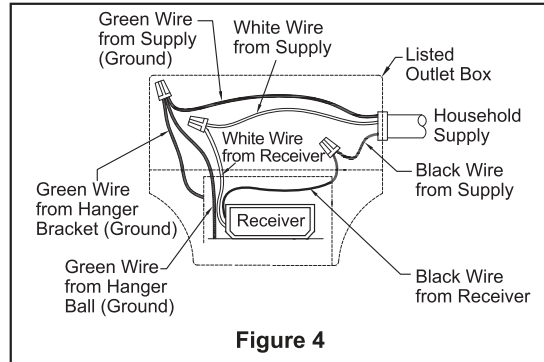

Figure 4
- After connections have been made, the wires should be spread apart with the grounded conductor and the equipment-grounding conductor on one side of the outlet box and the ungrounded conductor on the other side of outlet box, then turn leads upward and carefully push leads into the outlet box, with the white and green leads to one side of the box and the black leads to the other side. (Figure 4)